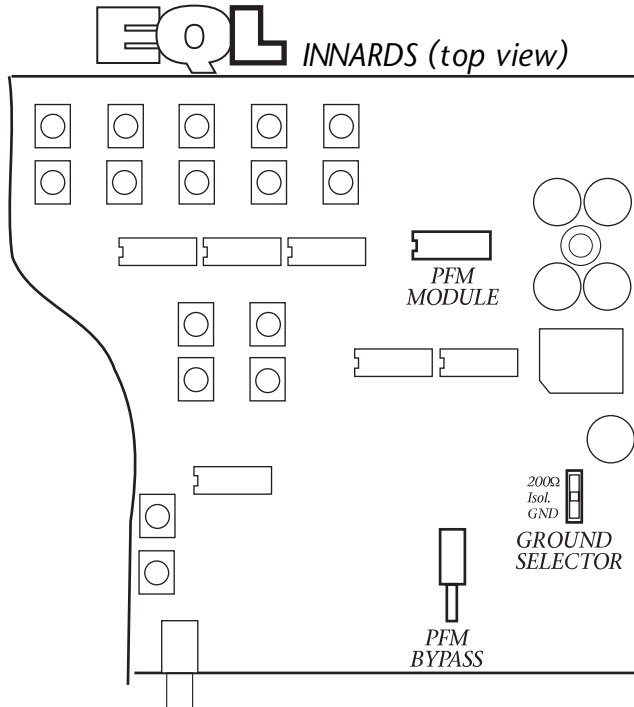

Figure 8. Removing the top panel lets you access the internal Programmable Frequency Match module and Bypass Switch.
The Programmable Frequency Match filter module, as well as the Ground Isolation Selector, are internal and can be accessed by removing the four top screws and lifting the top panel off the base, as shown in Figure 3 (also see Figure 8 on page 19). Be sure to turn off the power before you open the EQL.
2. Remove the top panel and locate the Programmable Frequency Match module, as shown in Figure 8.